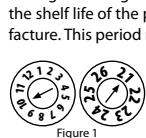

Figure 1
**Date of production:** It is on the product (Figure 1). The arrows indicate the month and year of production respectively.
**Marking:** ID CEE H867 ANSI Z87 EN166 3 24886 TAIWAN EN1731 F - frame marking; A/C – the eye-protector model identification/internal commodity code of APP; P/C – the eye-protector model identification/commodity code of manufacturer; COLOURS – available colours range; PACKING – quantity of the product in the smallest packaging/quantity in the carton; STANDARDS – standards; ID (LD) – manufacturer's identification mark (manufacturer: Long Dar Plastic Co Ltd, 24886 Taiwan, 96-200 Julianów, 50, Poland); ID (REIS) – APP identification mark; EN166, EN1731 – the numbers of the European standards; PP – material of frame; ANSI Z87 – standard designation according to the American National Standards Institute; 3 – fields of use - liquids, F - Low energy impact (impact resistance of a steel ball with a nominal diameter 6 mm, minimum weight 0,86 g and estimated speed 45 m/s), B - Medium energy impact (impact resistance of a steel ball with a nominal diameter 6 mm, minimum weight 0,86 g flying at speed of 120 m/s); □ - make acquainted with the instructions for use; □ - lot number; □ - online instruction; CEE – conformity mark; GB – Great Britain conformity sign